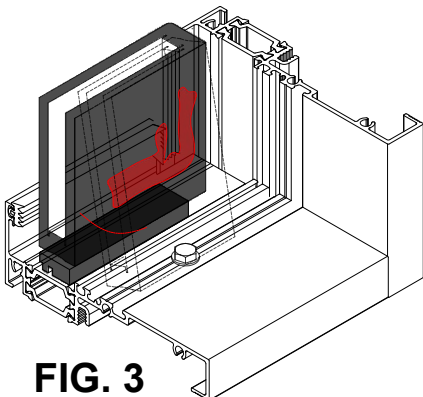

FIG. 3
- b. Set the glass onto the Setting Blocks and center the glass in the opening. **See FIG. 3**